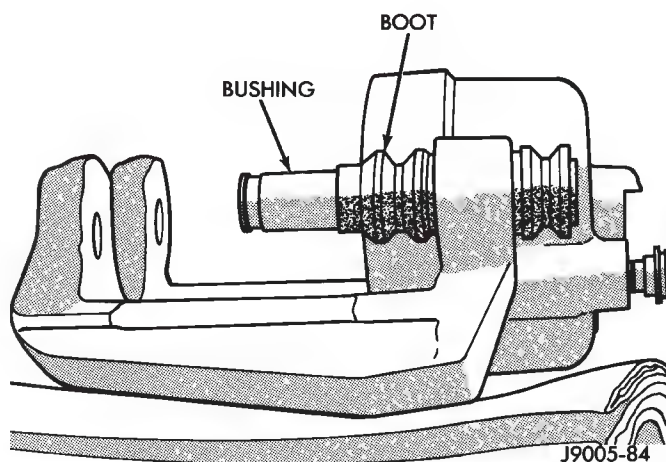

Fig. 20 Installing Bushings And Boots
(1) Coat caliper piston bore, new piston seal and piston with clean, fresh brake fluid.
(2) Lubricate bushings and interior of bushing boots with GE 661, Dow 111, or Permatex Dielectric silicone grease.
(3) Install bushing boots in caliper first. Then insert bushing into boot and push bushing into place (Fig. 20).